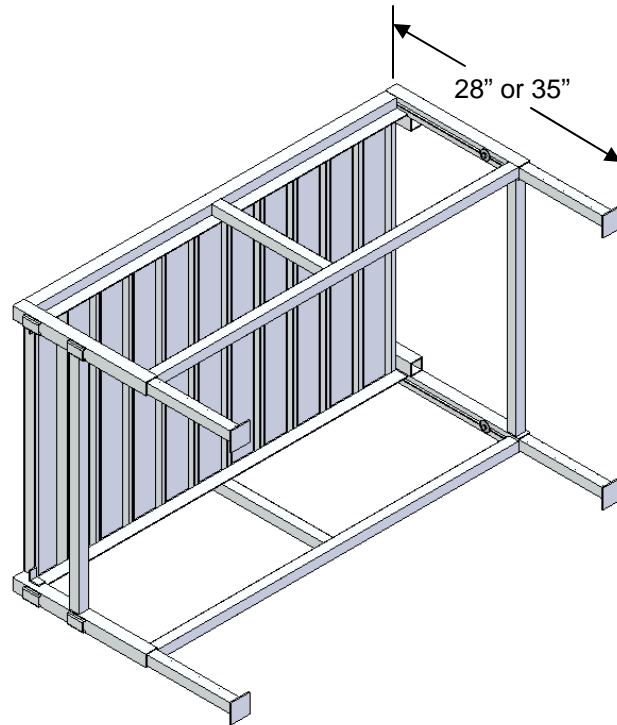

Figure 2: Leg height adjustment.
- (4) 1/2" stainless steel washers (Pre-assembled at factory)
-Lay the platform on its side as shown in **Figure 2**.